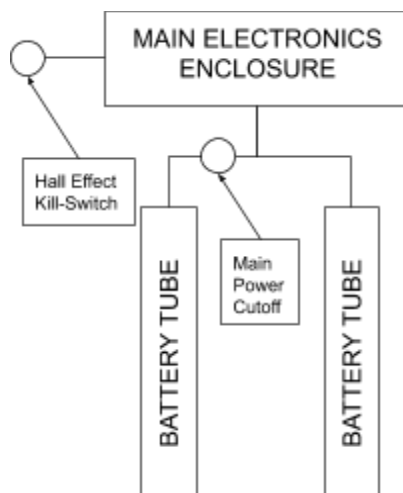

Figure 1: Tube layout
*Blue*'s electrical systems are separated into three main, air-sealed capsules. Two 3-inch tubes serve as flat-cell lithium polymer battery bays for the sub's power supply. These tubes contain thermal sensors and voltage monitors that alert the system when power is low. The sub is wired in a 6 cells in series and 2 groups in parallel (6S 2P). A third 6-inch tube contains the sub's power distribution, electronic speed controllers, cameras, central processing unit (CPU), microcontrollers, and accessories. Organization of these tubes and their contents is provided in *figure 1 and 2*. The robot's "kill-switch" utilizes a non-latching hall-effect sensor to disable the robot in the presence of a strong magnetic field.